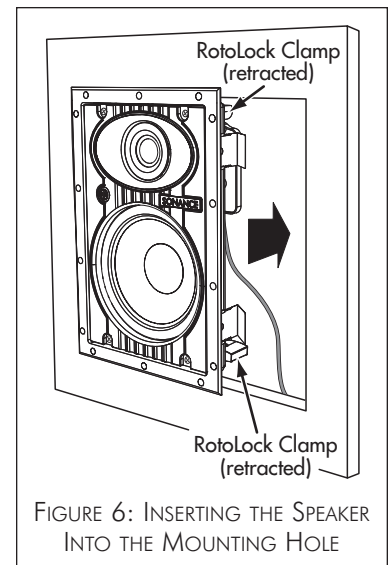

FIGURE 6: INSERTING THE SPEAKER INTO THE MOUNTING HOLE
4. Make sure all the RotoLock clamps are retracted so that they are tucked within the mounting hole's border. Insert the speaker into the hole in the wall (*Figure 6*). The RotoLock system can accommodate a maximum wall material thickness of 1/4".